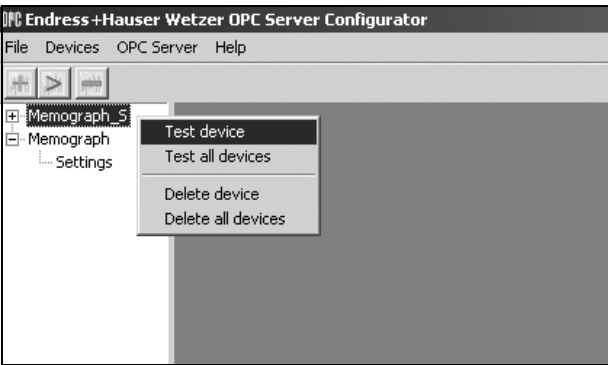

Fig. 5: Testing the connection
- For individual devices: In the screen with the view of the device list, right-click the device in question and then select **Delete device**, see Fig. 5.